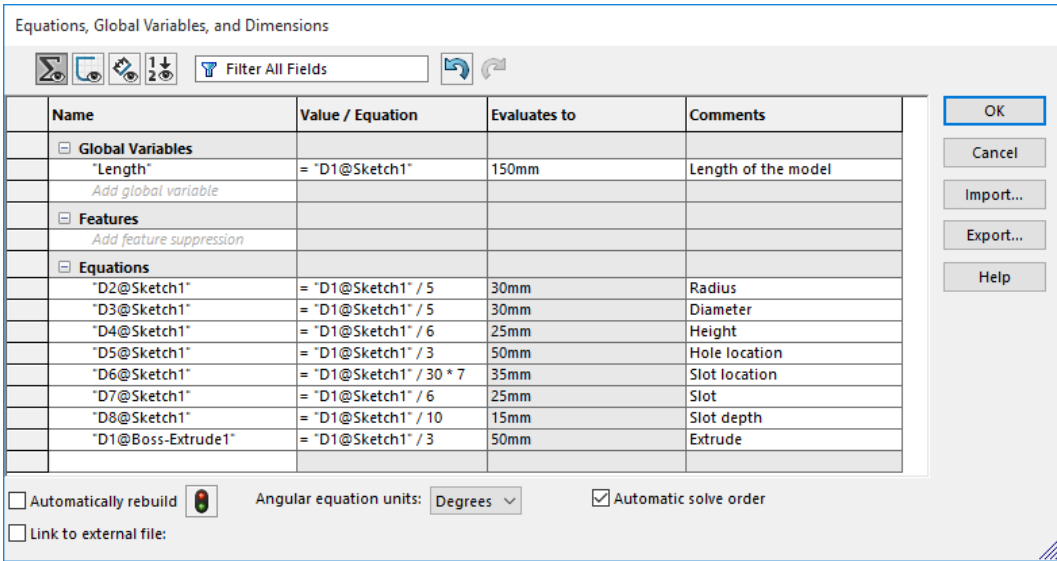

Figure 19-42 The Equations, Global Variables, and Dimensions dialog box after adding equations to extrude feature
4. Select the horizontal dimension value **150** in the drawing area. Next, press the forward slash (/) and enter **3** in the cell corresponding to this dimension value in the **Equations** node, refer to Figure 19-42.